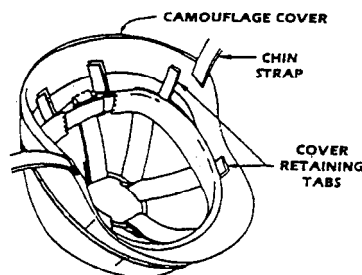

Figure 2-35.—Camouflage cover.
1. Put the cover (fig. 2-35) over the helmet so the end marked "front" covers the bill of the helmet.